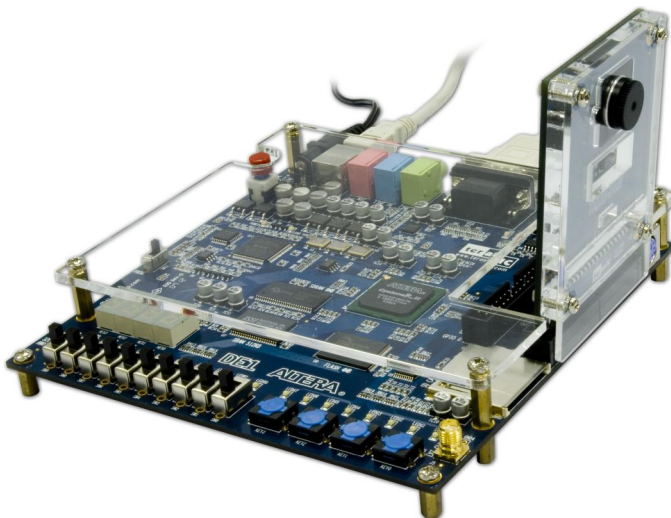

Figure 1.6 Connect the D5M to DE1 board's expansion port (**outermost port**).
5. Connect the D5M to your DE1 board as shown in Figure 1.6.